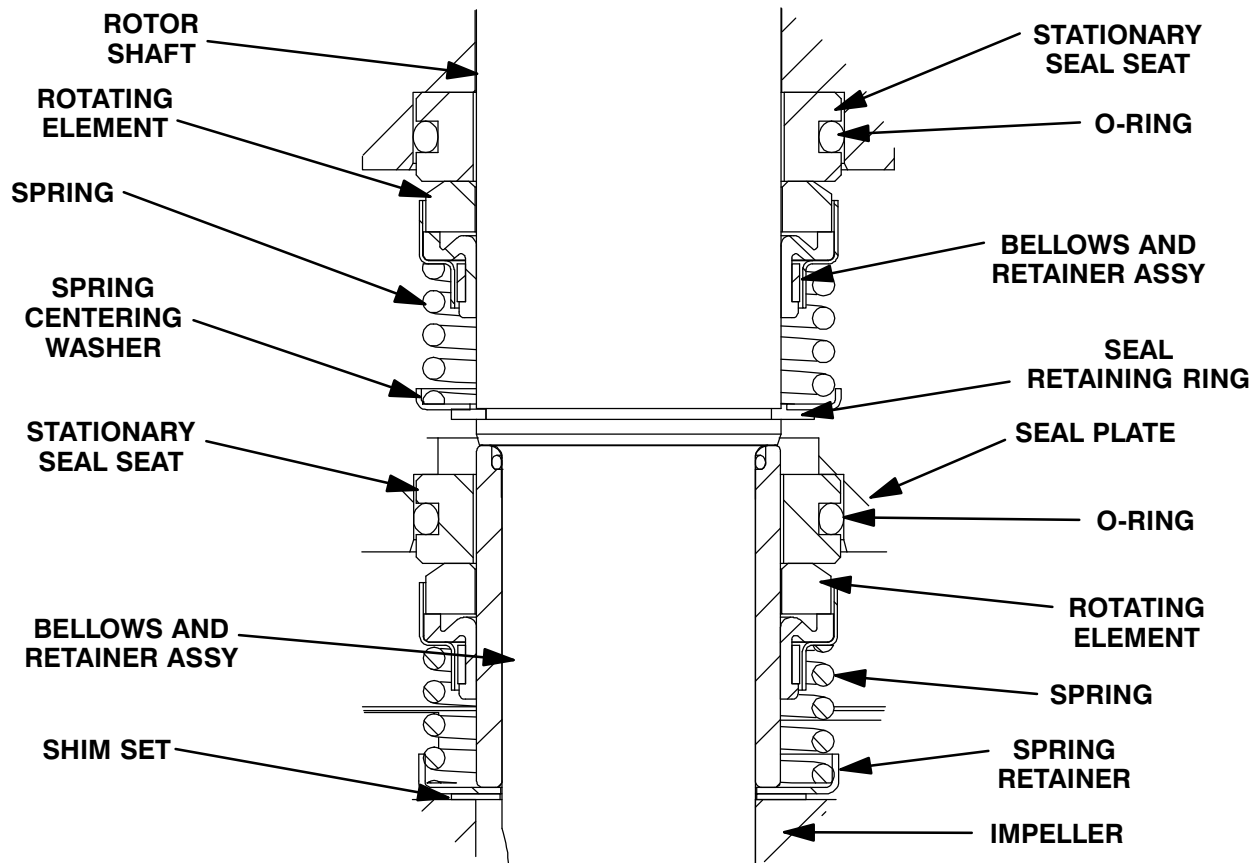

Figure E-3. Upper And Lower Seal Assemblies
Install the shaft seals as illustrated in Figure E-3.
Slide the seal spring over the shaft and bellows retainer and install the spring centering washer. Install the seal retaining ring (10). See Figure E-3 for the proper order of seal assembly.